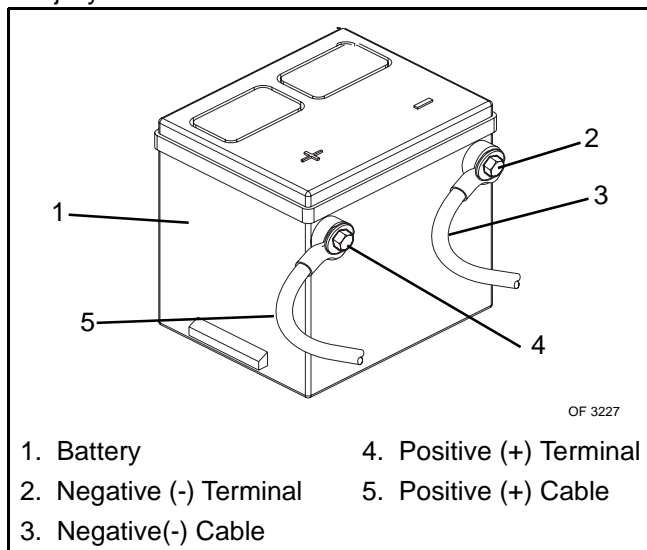

Figure 8
2. Disconnect negative (-) cable first, then positive (+) cable (Figure 8).